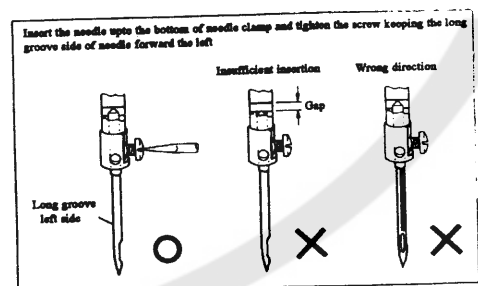

Fig.2
4. HOW TO ATTACH A NEEDLE (Fig.2)